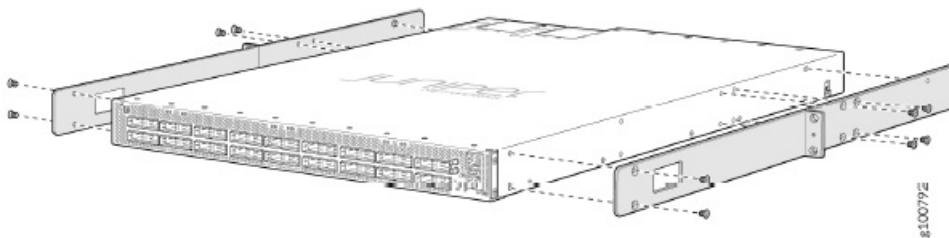

Figure 5: Attach the Two Post Mounting Brackets to the PTX10001-36MR
3. Align the hooks and the screw holes on the mounting bracket with the screw holes on the side of the chassis. See Figure 5 on page 7 to see the proper alignment for the PTX10001-36MR.